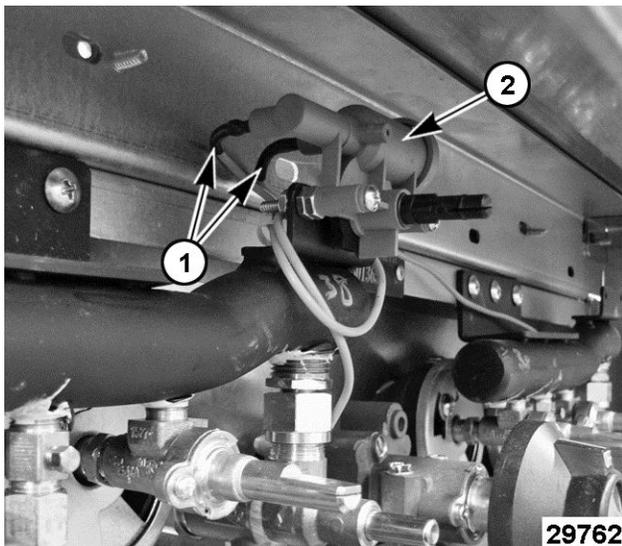

Fig. 99
3. Disconnect igniter wires (1, Fig. 99) from rotary igniter (2, Fig. 99).